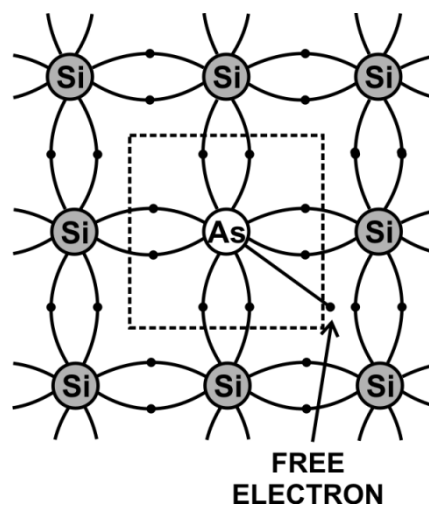

Fig. 1.5 Si-Crystal as n-type Semiconductor
- Fig 1.5 shows the effect of adding pentavalent impurity arsenic to silicon crystal.